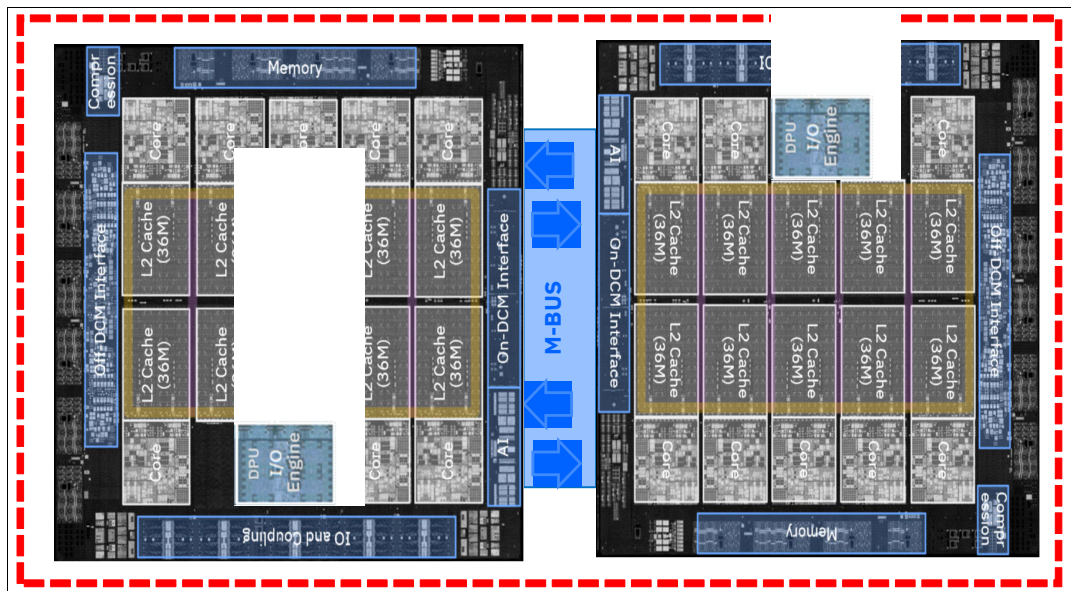

Figure 9-3 IBM z17 Dual Chip Module (M-Bus connects the two chips)
- Two PU chips are packaged on a dual chip module (DCM), as shown in Figure 9-3. PU chip to PU chip communication is performed through the M-Bus, which is a high-speed bus that acts as ring-to-ring extension communication at 160 Gbps data rate, with the following RAS characteristics: